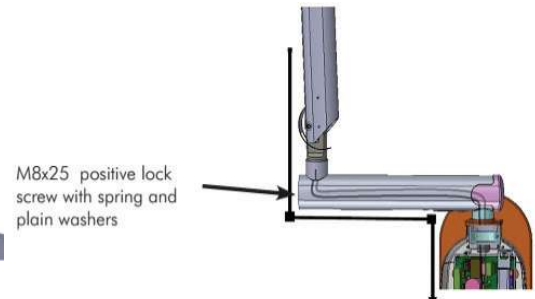

Figure 84(2)
- Route the scissor-arm cables through the straight-arm till it comes inside the base unit (Use guide wire for routing and guide with finger from the slots available bottom side of the straight arm) as shown in Figure 84 .